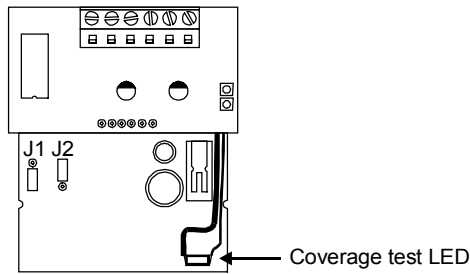

Figure 14: Coverage test LED
4. Test each curtain for proper operation by walking through each section in the space. The red coverage test LED (Figure 14) flashes on each alarm.